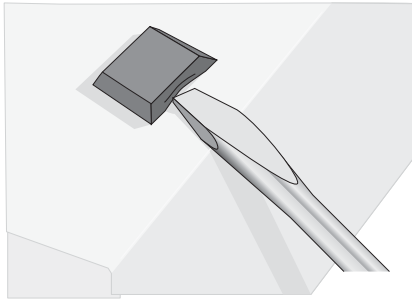

Figure 8 Removing the Protective Feet (AT-FS7016)
- ❑ For the AT-FS7016 switch, remove the protective feet from the bottom of the unit, as shown in Figure 8.